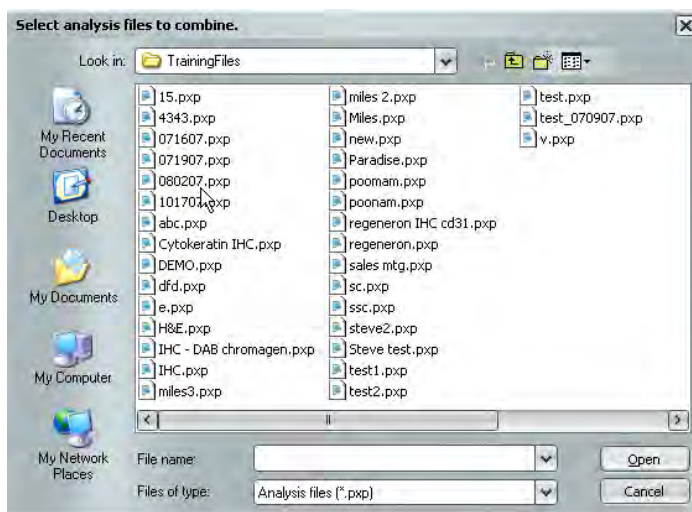

Figure 20. Browse Analysis Files to Combine into New Analysis File.
6. In the “Select Analysis Files to Combine” window, hold down the CTRL key and select the files that you wish to combine (Figure 20). When finished click OPEN.